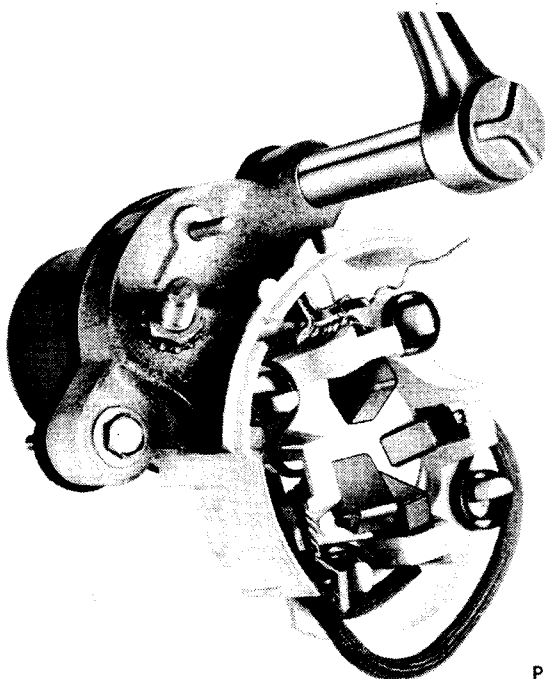

Fig. 9—Removing Solenoid Attaching Screws
(10) Remove screws attaching solenoid to brush plate, (Fig. 9).